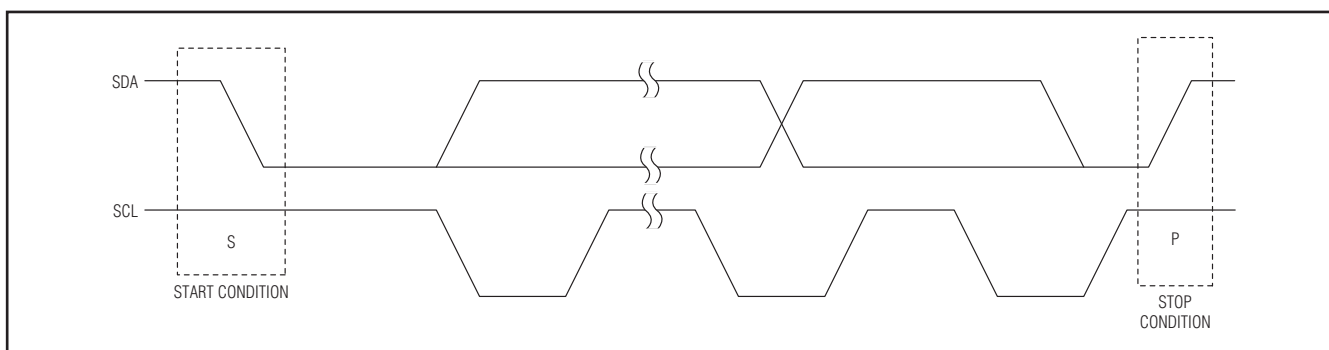

Figure 3. START and STOP Conditions
Each transmission consists of a START (S) condition sent by a master, followed by a 7-bit slave address plus a NOP/ $\bar{W}$  bit. See Figures 3, 4, and 7.